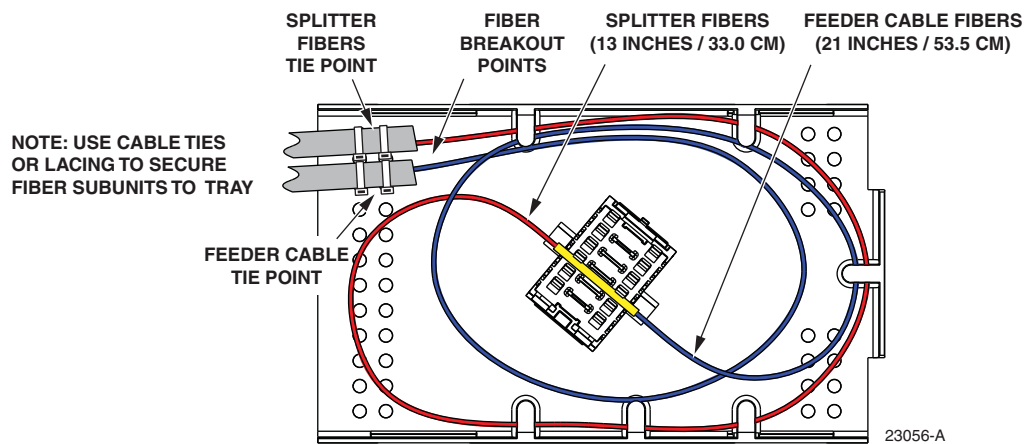

Figure 19. Ribbon Fiber Splice Tray - Feeder Cable Splicing
13. Splice the feeder cable fibers to the appropriate splitter fibers as specified by local policies and procedures. Adjust and route the fibers within the splice tray as shown in Figure 19. Refer to Table 3 for the splitter fiber designations.